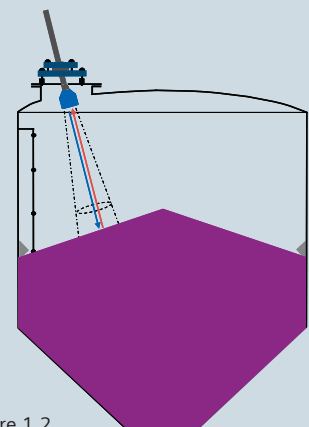

Figure 1.2
- For solids, perpendicular to the angle of repose. This usually means aiming the transducer toward the silo or bin outlet. (Figure 1.2).